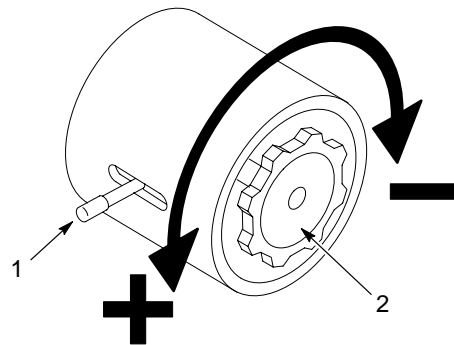

Figure 5 Speed Control (Variable Sheave Oscillators Only)
See Figure 5. Turn the speed control knob (3) at the rear of the oscillator:
**NOTE:** The torque arm (1) maintains the speed control knob (3) setting while the motor is operating.